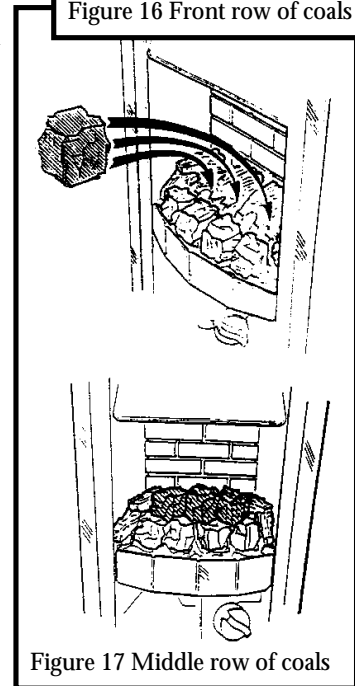

Figure 17 Middle row of coals
7.3.3 Place three of the remaining coals behind the front row and approximately midway between the front row and the rear ceramic wall of the firebox. See figure 17.